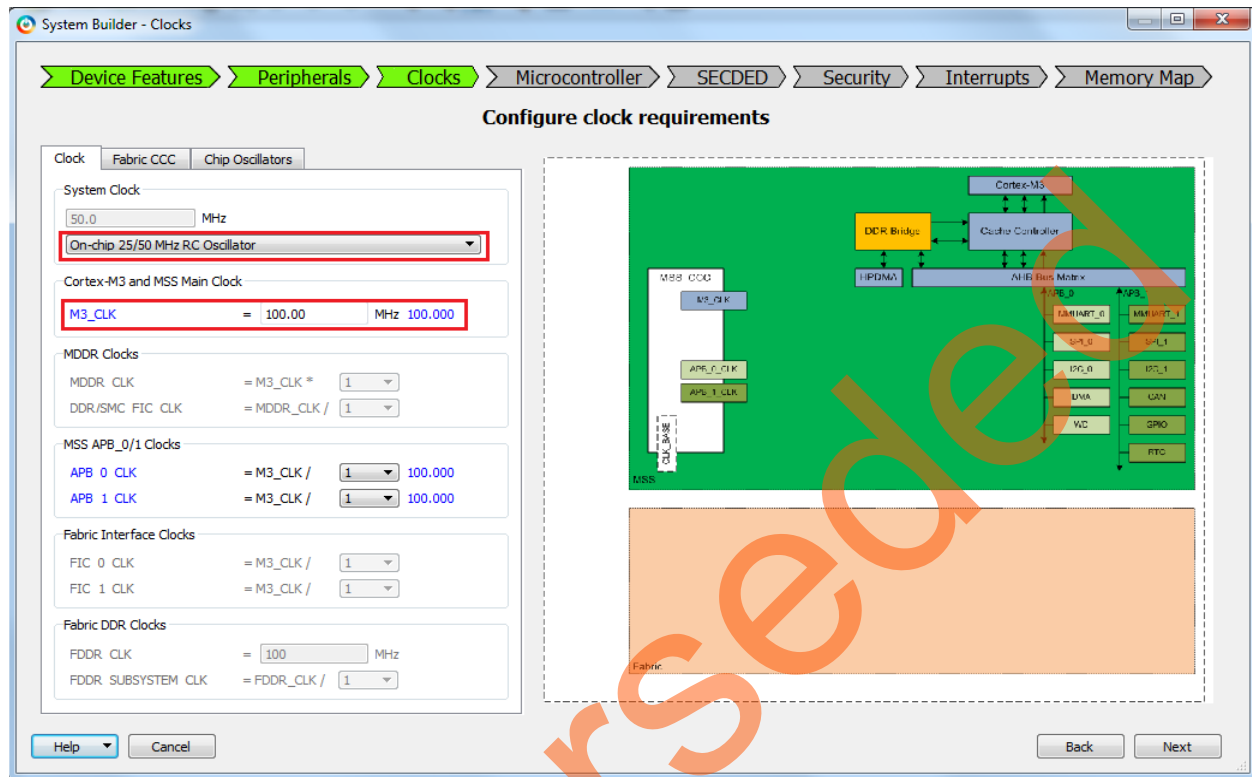

Figure 10 • System Builder Configurator – Clock Settings Page
11. Click **Next**, the **System Builder – ClocksSettings** page is displayed, as shown in Figure 10. Select **System Clock** source as **On-chip 25/50 MHz RC Oscillator**. The M3_CLK is configured to 100 MHz by default.